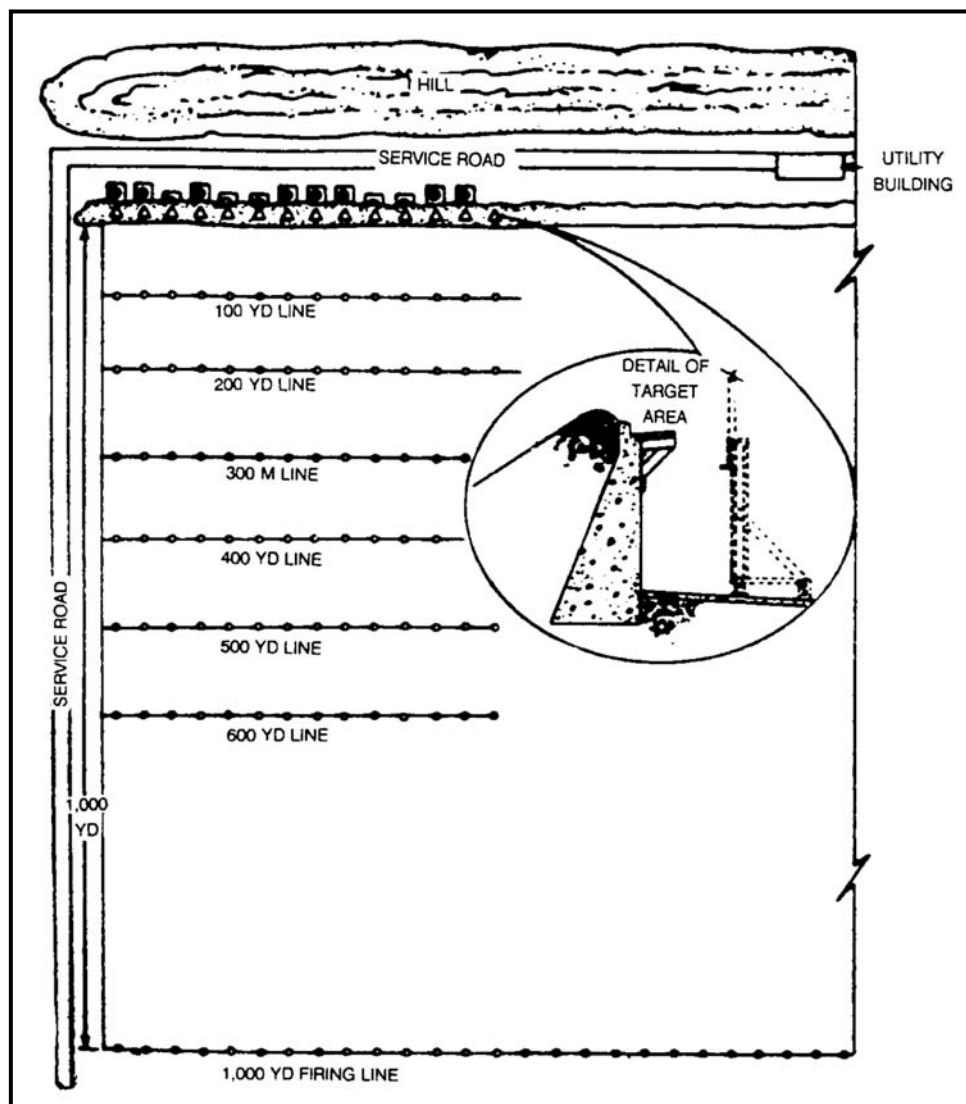

Figure 5-24. Known-distance range.
g. **Conduct of a Standard KD Range.** The standard KD range is conducted with paper targets at 100, 200, and 300 meters (Figure 5-24, page 5-24). Shot groups are fired progressively at the targets. Half the bullets are fired from the supported firing position and the other half from the unsupported firing position. The wind speed and direction must be determined before firing and the firer must know the distance to the target. After each shot group is fired the targets are marked. Based on this feedback, soldiers receive a critique from their instructor-trainer or coach, and apply adjusted aiming points as necessary. The downrange feedback exercise must be conducted within the constraints of time, ammunition, and available ranges. If 30 rounds of ammunition are available for training, firing three-